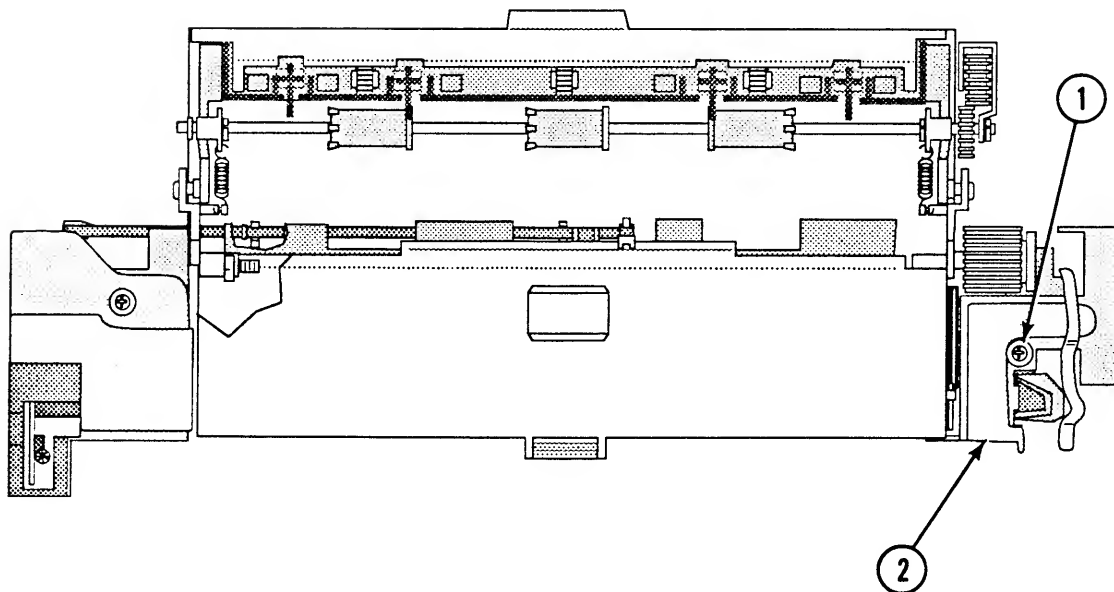

FIGURE 13
10. Remove the Phillips screw (Figure 13, #1) that secures the right contact cap (Figure 13, #2) to the fuser assembly. Remove the cap.